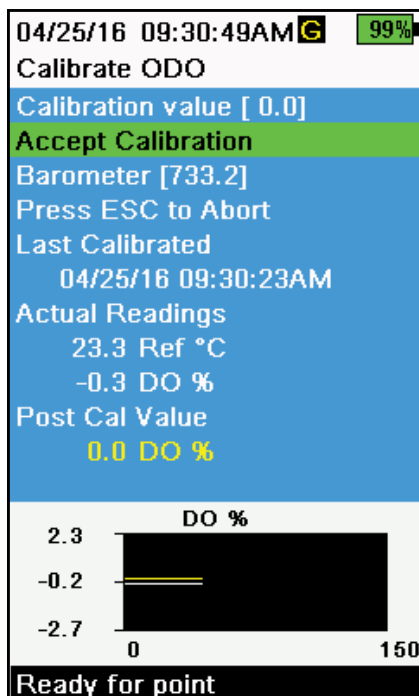

Figure 36 Calibrate DO zero point
3. Observe the actual measurement readings for stability (white line on graph shows no significant change for 40 seconds), then select **Accept Calibration** (Figure 36). "Calibration successful!" will be displayed in the message area.